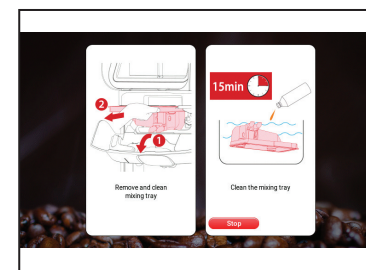

Fig.6
5. The display will show **CLEAN COOLING BOX PRESS ENTER TO CONFIRM**, press **ENTER** to confirm and continue. The display will show: **REMOVE AND CLEAN MIXING TRAY** (See Fig.6). Follow the onscreen instructions for tray cleaning. (Proceed to next page).